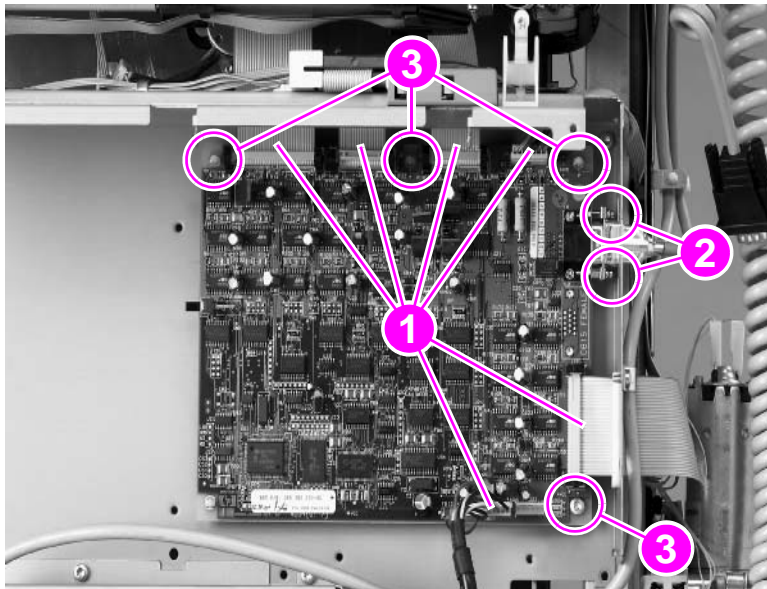
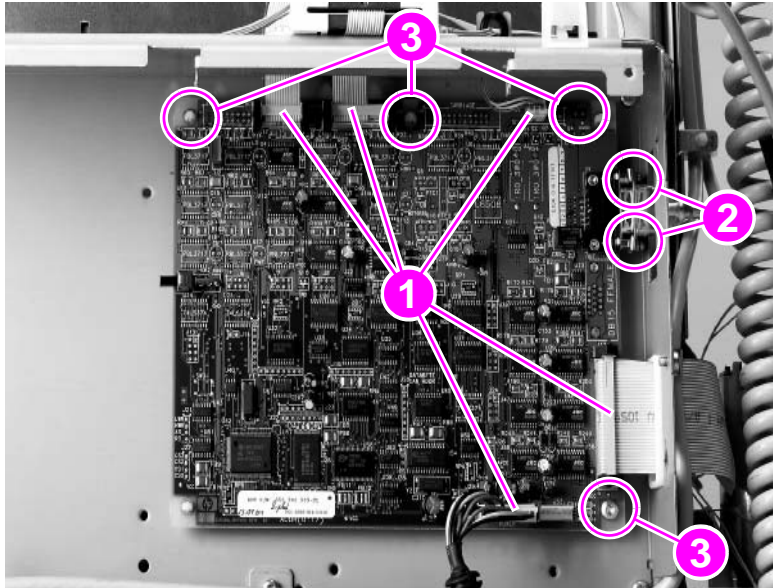

Figure 117.
Figure 118. Stacker controller PCA
See figure 117 for the stapler/stacker or figure 118 for the stacker.
- 2 **Stapler/stacker:** Unplug four ribbon cables, the power cable, and the LED cable (figure 117, callout 1).
Stacker: Unplug three ribbon cables, the power cable, and the LED cable (figure 118, callout 1).